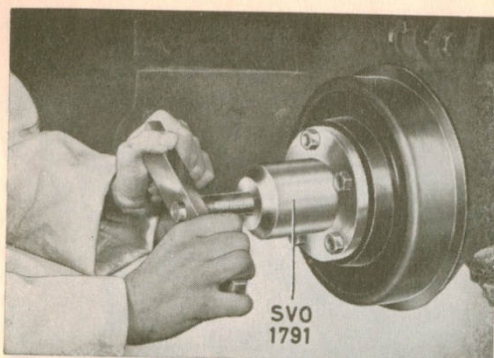

Fig. 7-14. Removing the hub
2. Release the handbrake. Pull off the hub with tool SVO 1791, see Fig. 7-14.